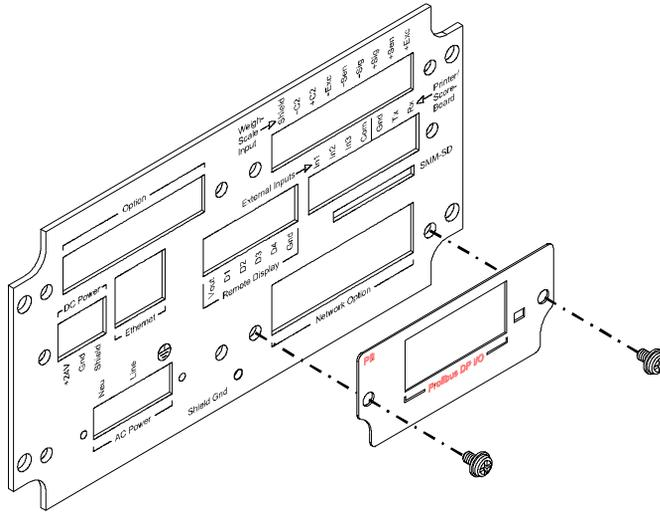

FIG. 32 INSTALLING THE PROFIBUS LABEL
- Step 8. Use the two (2) pan head screws (4-40 x .25") to fasten the rear plate to the PROFIBUS board assembly. (See Figs. 32 & 33)